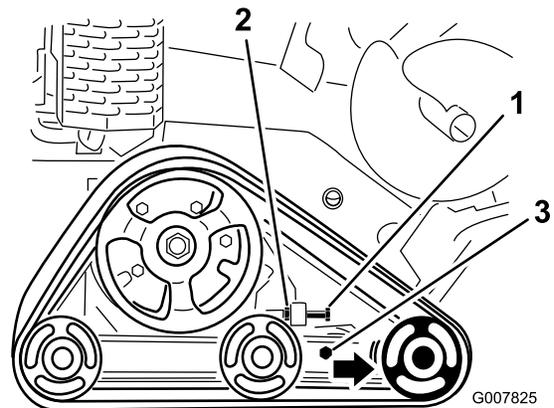

Figure 48
3. Loosen the jam nut on the track tensioning bolt and the clamp bolts on the tension arm (Figure 48).
4. Torque the tensioning bolt to 32.5 to 40 N-m (24 to 30 ft-lb) to tighten the track (Figure 48).
4. Back out the tensioning bolt and jam nut (Figure 48).
5. Loosen the clamp bolts (Figure 48).